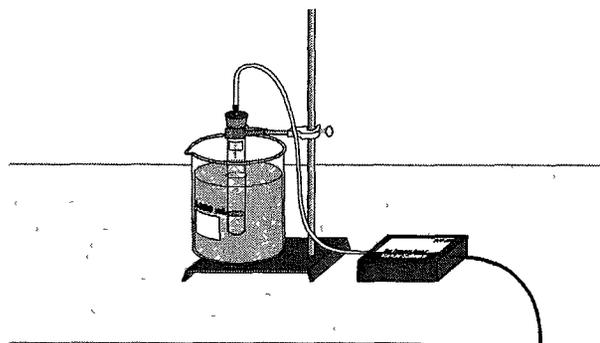

Figure 1
10. Insert a single-holed rubber-stopper into test tube T1 and T3. **Note:** *Firmly* twist the stopper for an *airtight* fit. Secure each test tube with a utility clamp and ring-stand as shown in Figure 1.
11. Arrange test tubes T1 and T3 in the warm water bath using the apparatus shown in Figure 1. Incubate the test tube for 10 minutes in the water bath. Be sure to keep the temperature of the water bath constant. If you need to add more hot or cold water, first remove about as much water as you will be adding, or the beaker may overflow. Use a basting bulb to remove excess water. Record the resulting temperature of the water bath once incubation has finished in Table 2.